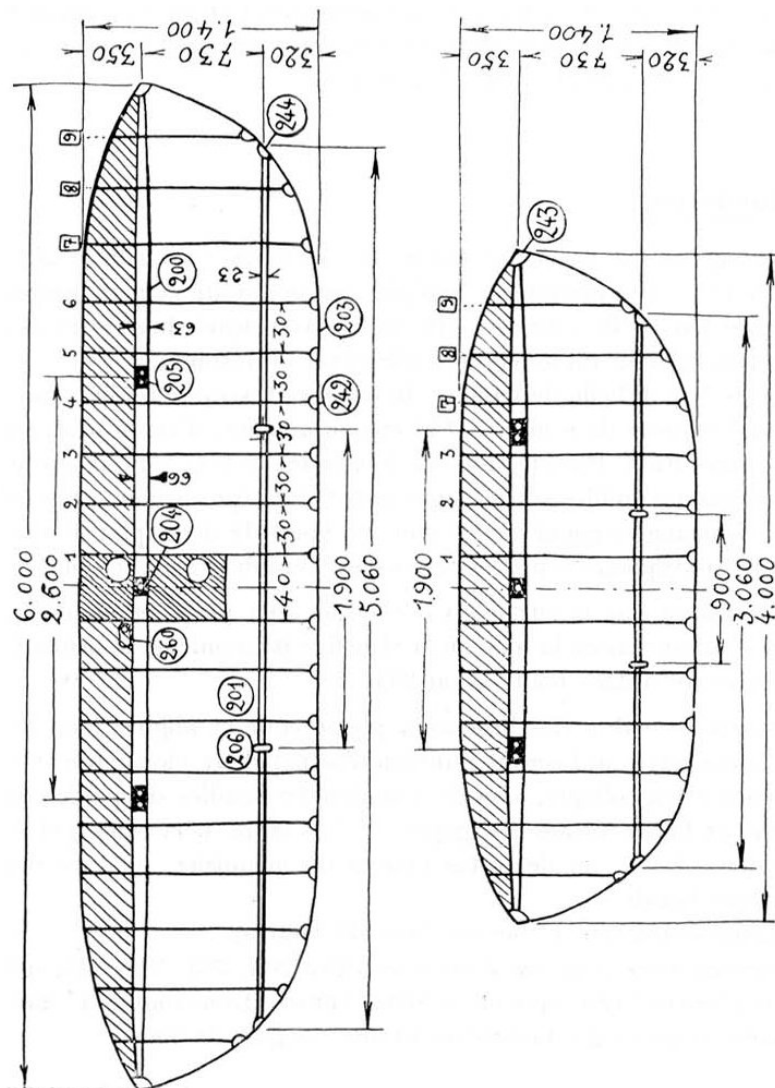

Figure 4.1: Overview of wing structure
The structure of the wing (*fig. 4.1*) consists of 18 ribs strung on a 6m main spar (200). A smaller 5m spar (201) is threaded with the tail ends of 12 ribs, all the same; the three ribs numbers 7, 8, and 9 on each side are different because of the planform of the wing.
The two innermost ribs are spaced 400mm apart; the others 300mm (*fig. 4.1*).